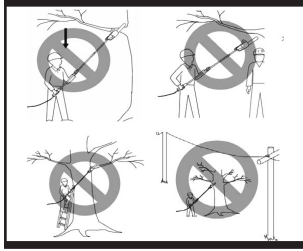

Fig. 12b
2). Never stand directly under the limb you are sawing. Objects may fall different than expected. Always position yourself out of the path of falling limbs. Keep other persons away from cutting end of garden power tool and at a safe distance from the work area. Maintain a minimum distance of 10 m to bystanders. Never stand on a ladder or other type of unstable support while using the pruner. Insecure stand could result in accidents. (See Fig.12b)